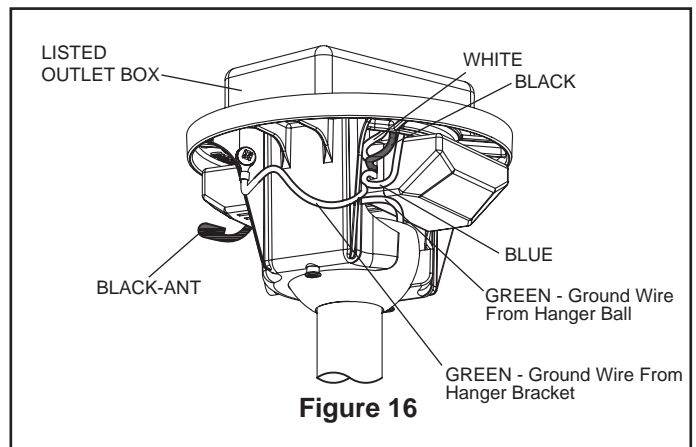

Figure 16
5. After connections have been made, turn leads upward and carefully push leads into the outlet box, with the white and green leads to one side of the box and the black leads towards the other side. The wires should be spread apart with the grounded conductor and the equipment-grounding conductor on one side of the outlet box and the ungrounded conductor on the other side of the outlet box (Figure 16).